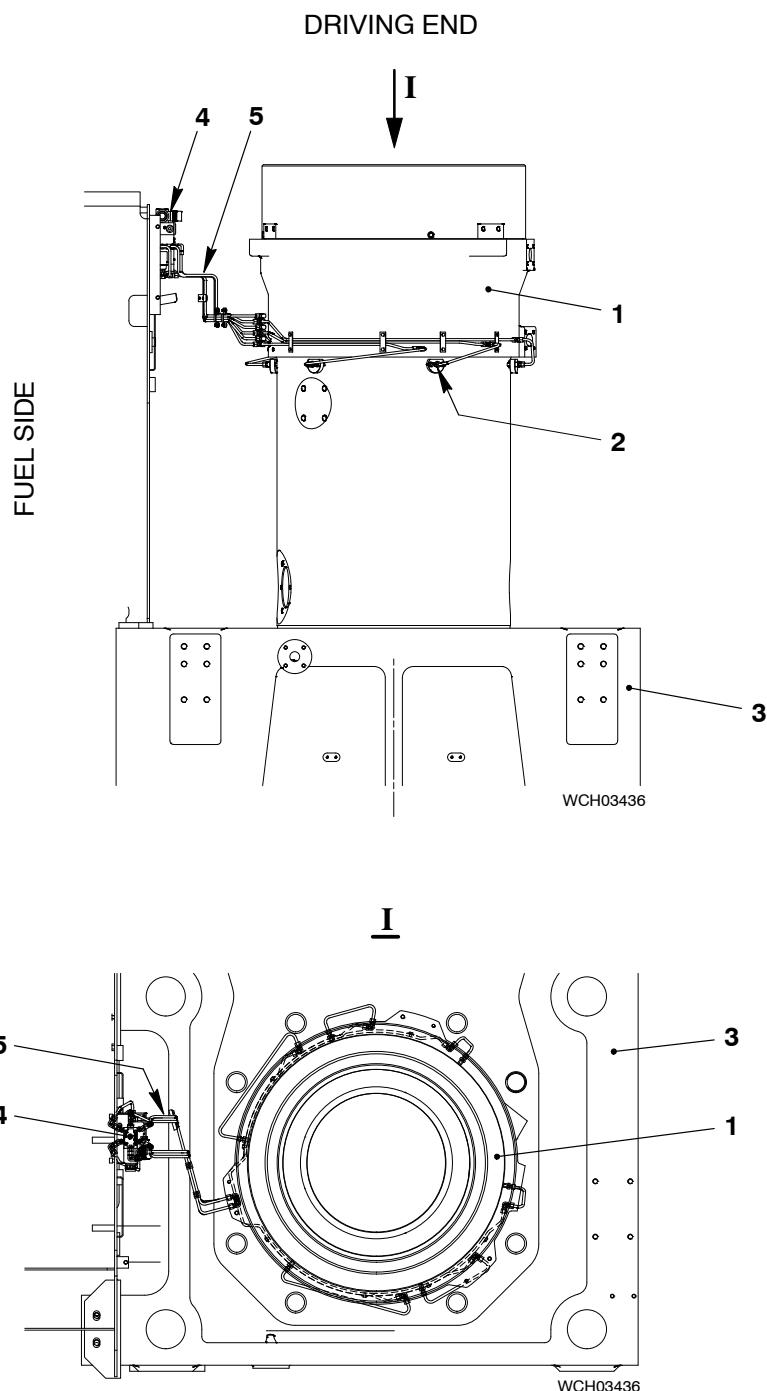

Fig. 5: Cylinder Lubricating Quills
After you bleed the lubrication oil supply pipe (2), and the cylinder lubricating pumps, it is necessary to bleed the oil pipes (5, Fig. 5) to the lubricating quills (2) as follows:
Cylinder lubricating oil is injected on to the cylinder liner wall (1, Fig. 5) through the six lubricating quills (2) installed on the circumference of the support ring.